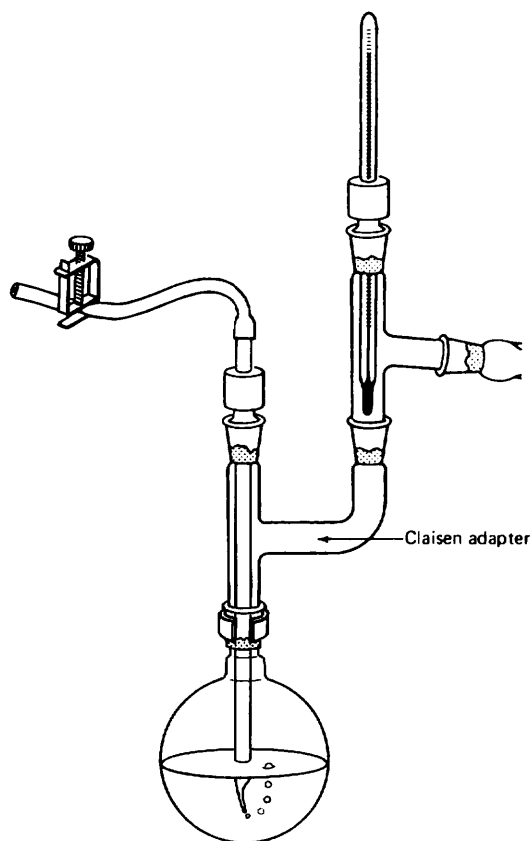
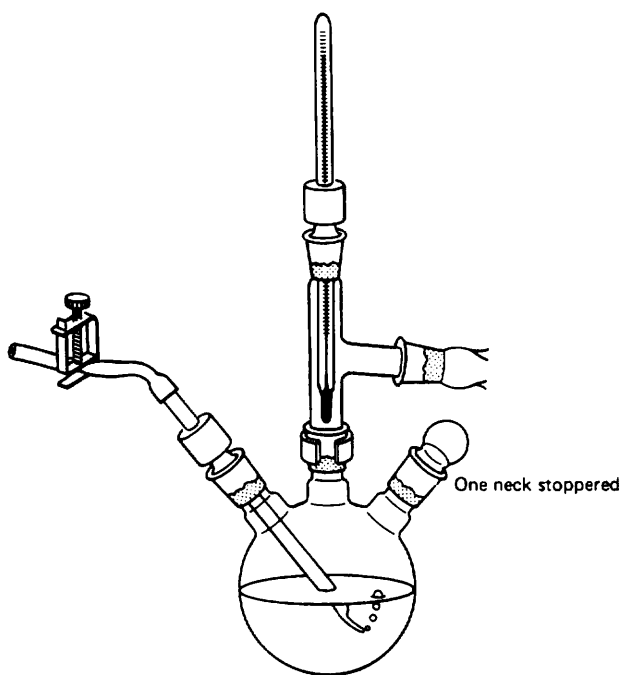

Fig. 102 A Claisen adapter so you can vacuum distill and take temperatures too.
Fig. 103 Some multipurpose setup with a three-neck flask.
9. A **Claisen adapter** in the distilling flask lets you take temperature readings and can help stop your compound from splashing over into the distillation receiver (Fig. 102). On a microscale, though, the extra length of the Claisen adapter could hold up a lot of your product. Check with your instructor. Also, you could use a **three-neck flask** (Fig. 103). Think! And, of course, use some glassware too.